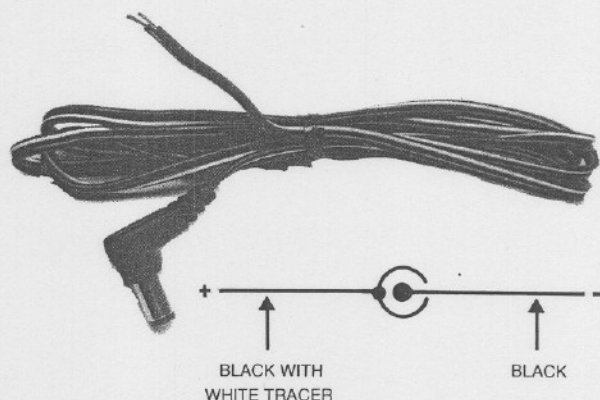

Figure 2-7. DC plug wiring
1. Connect the source of nominal 12 Vdc to the Power jack (24). Note: The plug required for this connection is of the type used on the Sony BP-90 battery. A mating plug with leads is supplied as a standard accessory. The coaxial type power plug is wired with the outer shell positive and the inner conductor negative. Refer to Figure 2-7.